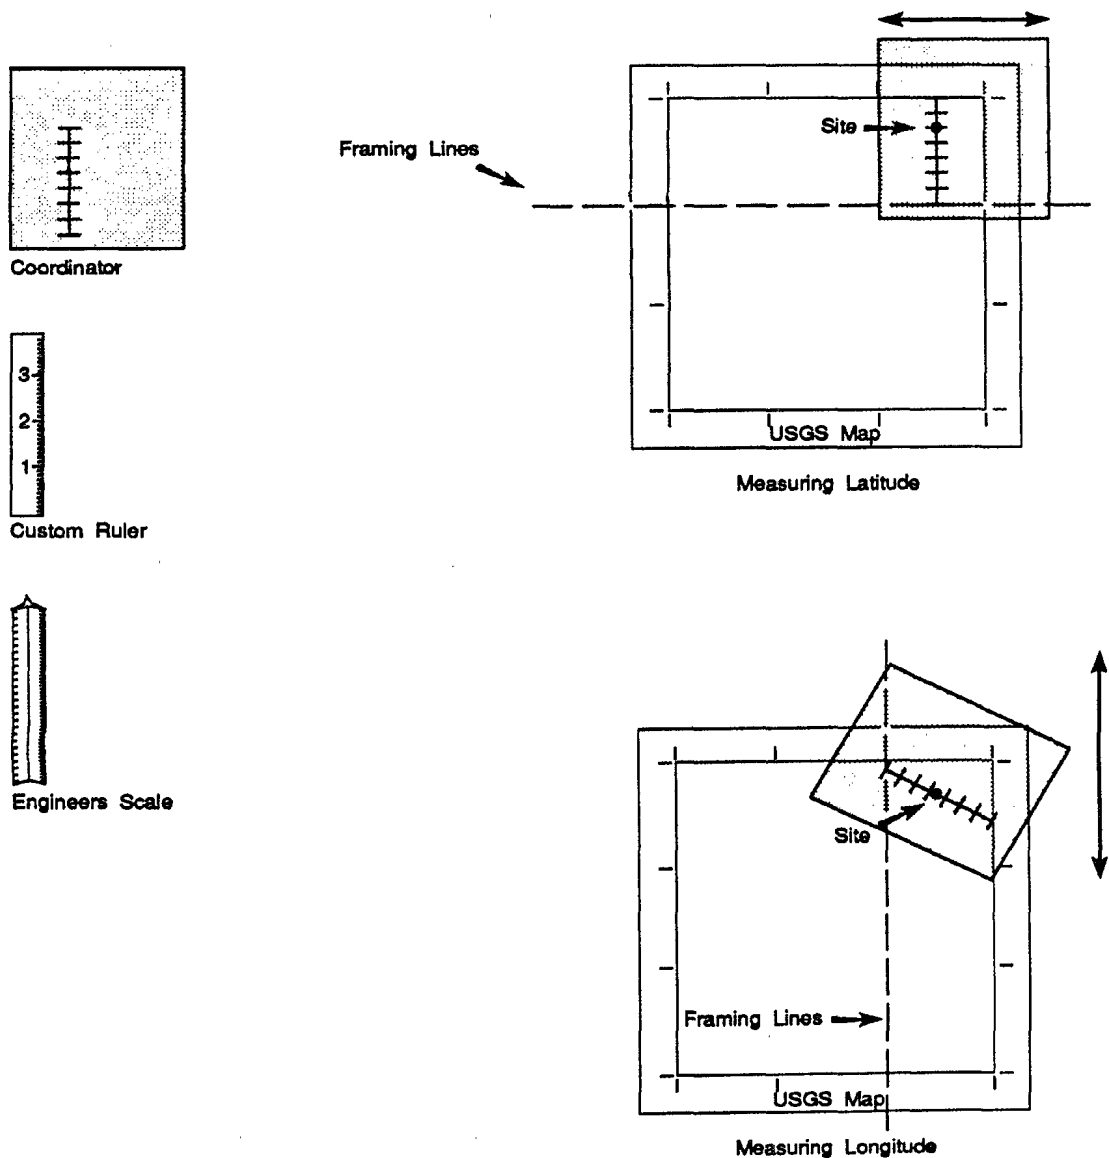

Figure 4-3. Determining Latitude and Longitude Using Linear Interpolation
4. Lay the scale on the map so that the bottom of the scale coincides with the bottom framing line and the top of the scale coincides with the top framing line (see Figure 4-3).
2. Lay the 1:24,000 scale on the map so that the bottom of the scale coincides with the right framing line and the top of the scale coincides with the left framing line (see Figure 4-3).
4. For latitude: place the 1/60 scale on the map so that the bottom of the ruler coincides with the bottom framing line and 454 coincides with the top framing line (see Figure 4-3).
For longitude: place the scale on the map so that the bottom of the ruler coincides with the right framing line and 454 coincides with the left framing line (see Figure 4-3).